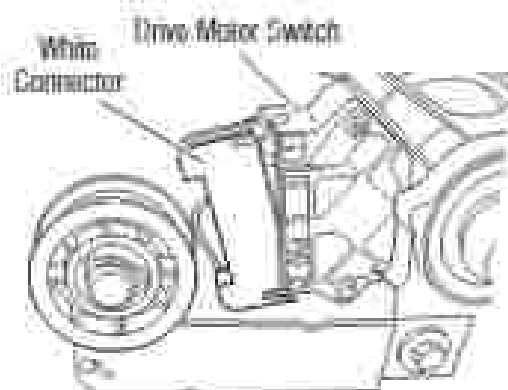

Figure 2 - Remove white connector
8. Remove the white connector from the drive motor switch. See Figure 2.